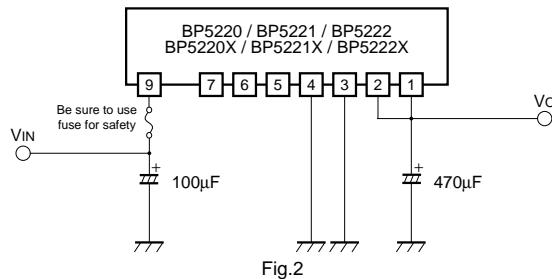

Fig.2
(1) The basic application examples are shown in Fig.2.